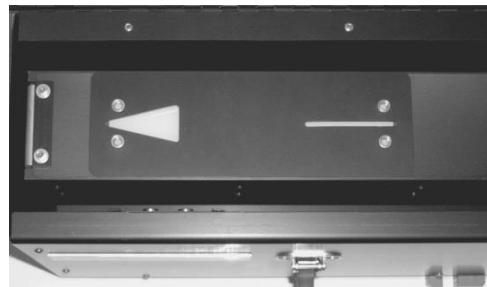

Figure 6.6 Alignment Mask
- 3) Remove the two calibrator alignment masks from their storage slots near the front of the calibrator. Lay them over the two outermost cutouts of the permanent calibrator mask with the triangular cutouts pointing outwards. Ensure that the pemannuts are facing downwards (Figure 6.6). The purpose of the pemannuts is to keep the alignment masks in place of the calibrator mask. Ensure that the calibrator beam remains level.
- 2) Remove the two calibrator alignment masks from their storage slots near the front of the calibrator. Lay them over the two outermost cutouts of the permanent calibrator mask, with the triangular cutouts on the alignment masks pointing away from the center and the PEM nuts facing downwards (Figure 6.6). Ensure that the beam remains level.